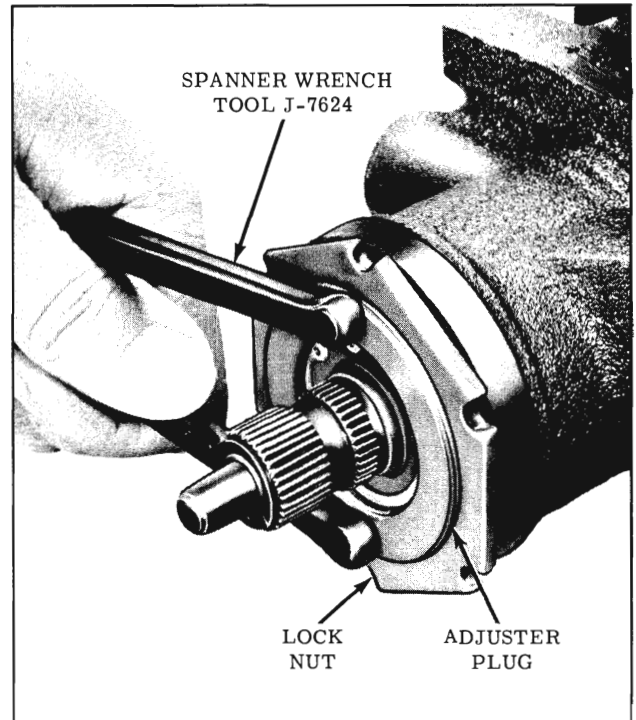

Fig. 4-279 Preload Adjustment
- b. Adjust thrust bearing preload to obtain 1/2 to 2 in. lbs. in excess of valve assembly drag. Tighten adjuster plug lock nut 50-110 ft. lbs. using Spanner Wrench J-972-A while holding adjuster plug in position with Tool J-7624. (Fig. 4-279)